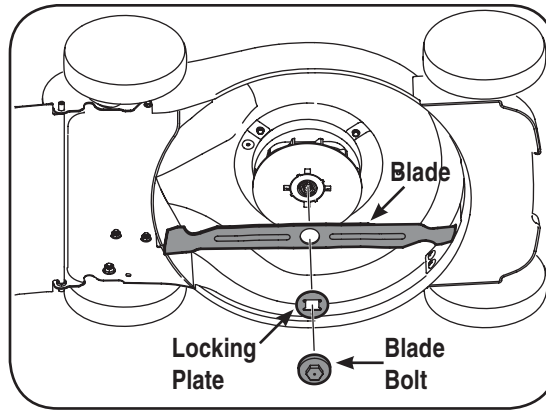

Figure 6-3
3. Loosen and remove the blade bolt, locking plate, and blade. See Figure 6-3.
6. Place the cutting blade, locking plate, and blade bolt on the motor shaft and thread the blade bolt in finger tight. Refer to Figure 6-3.